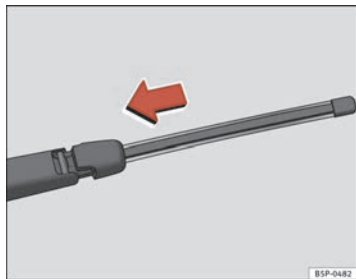

Fig. 150 Fitting the rear window wiper blade
- Place the blade as shown in the ⇒ fig. 150 and slide the adapter along until it engages.